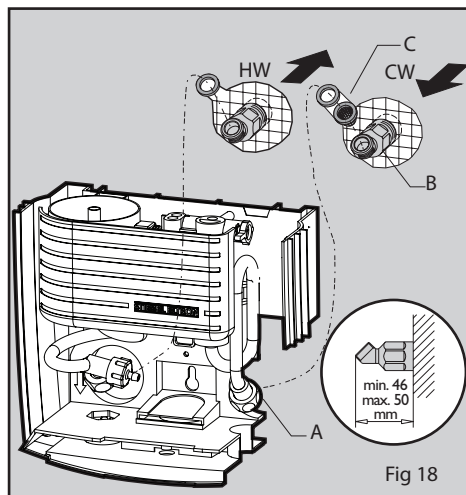

Fig 18
- Connect the nipple joints (Fig 18/B) to the cold water inlet pipe and the hot water outlet pipe embedded in the wall at an appropriate position and depth (please pay attention to the distances shown in the diagram).
- Screw the joints on the unit (Fig 18/A) to the joints (both hot and cold water), using a rubber leakage gasket (Fig 18/C) between the joints.